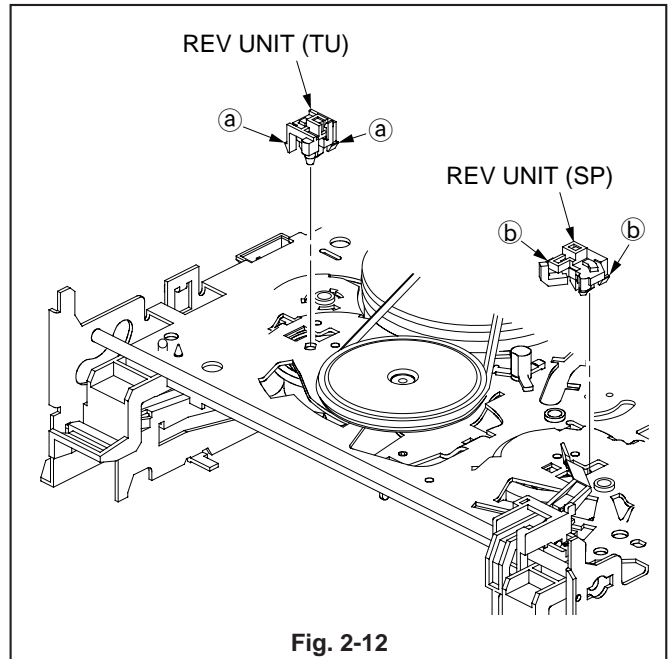

Fig. 2-12
1. Release the two catches (a) of the REV UNIT (TU) shown in Fig. 2-12 to remove the REV UNIT (TU).
2. Release the two catches (b) of the REV UNIT (SP) shown in Fig. 2-12 to remove the REV UNIT (SP).
2. Install the REV UNIT (TU) shown in Fig. 2-12.
3. Clean dirt on the transparent part of the REV UNIT (SP) with a VIDEO HEAD cleaning cloth.
4. Install the REV UNIT (SP) shown in Fig. 2-12.